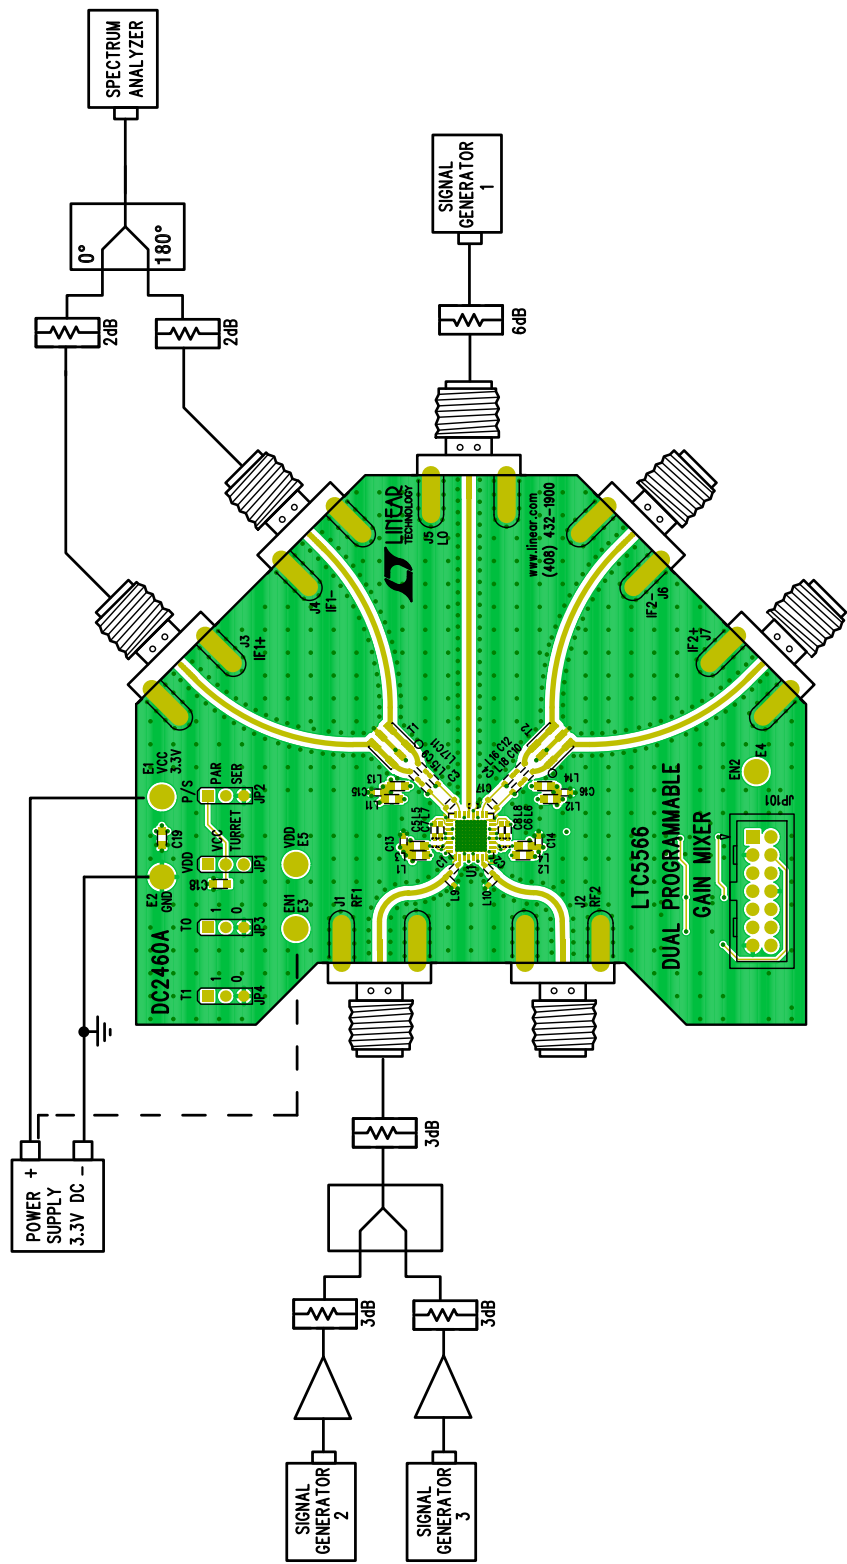

Figure 2. Test Setup for Downconverting Mixer 2-Tone Measurement
1. Connect all test equipment as shown in Figure 2.